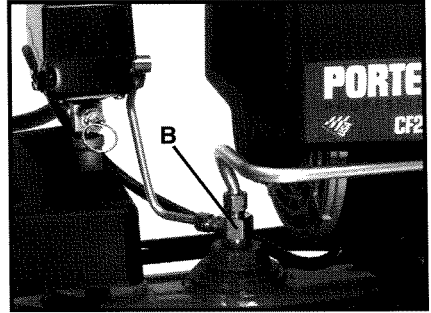

Fig. 2
**Check Valve (B) Fig. 2:** When the air compressor is operating, the check valve is "open", allowing compressed air to enter the air tank. When the air compressor reaches "cut-out" pressure, the check valve "closes", allowing air pressure to remain inside the air tank.